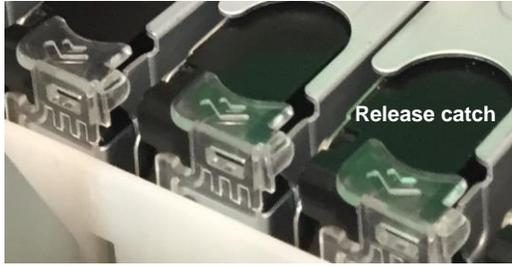

Figure 3.6 Carrier release catch
1. Press the release catch (see Figure 3.6) on the drive carrier in the direction of the imprinted arrows—pointing to the rear of the enclosure—to release the handle into the open position.
direction of the arrows (shown in Figure 3.6) and lift the handle into the open position.